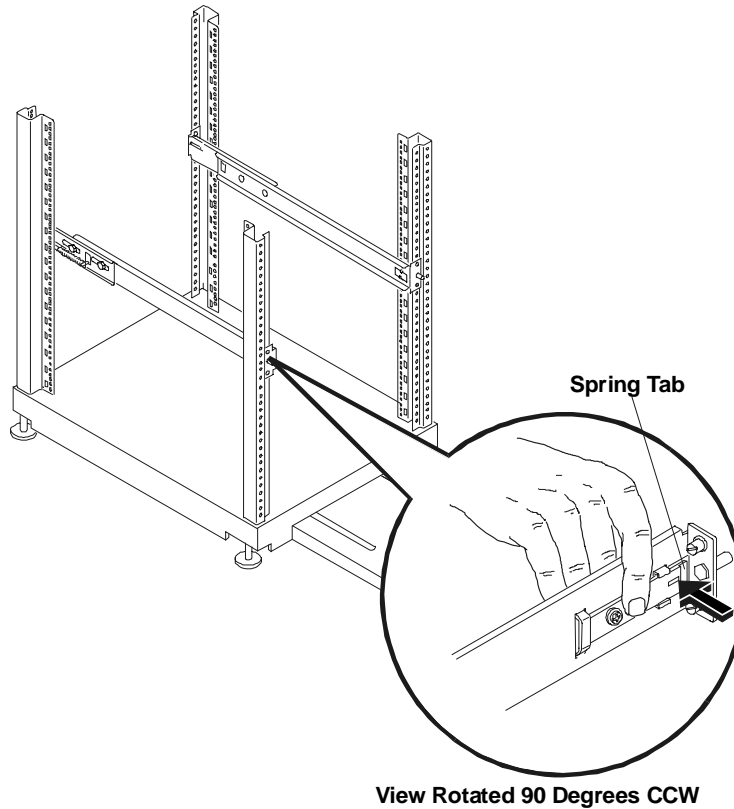

Figure 7-4. Releasing the Outer Slide Assembly
1. Place your finger inside the slide to release the spring tab, as shown in the example in Figure 7-4.